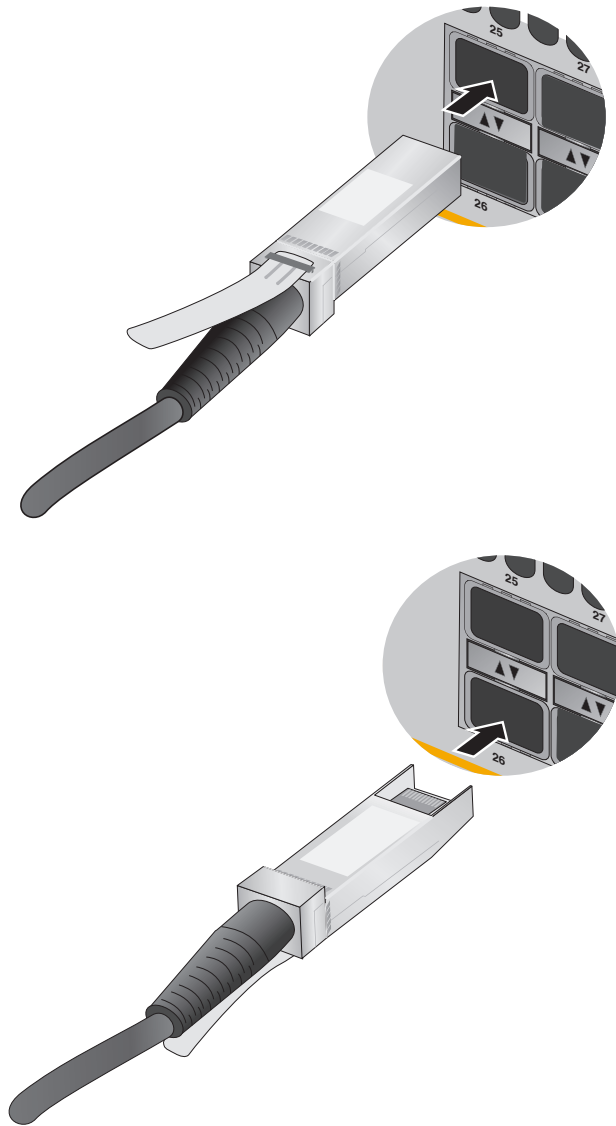

Figure 57. Installing SP10TW Cables
3. To install the transceiver in a port in the top row, position the transceiver with the Allied Telesis label facing up. To install the transceiver in a port in the bottom row, position the transceiver with the label facing down. Refer to Figure 57.